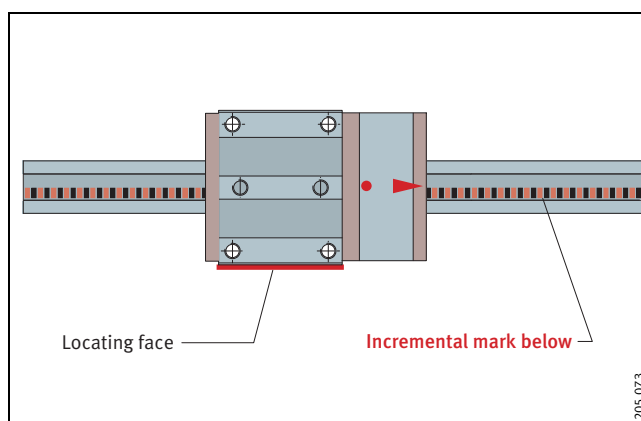

Figure 8 • Measuring head on right of carriage
- if the measuring head is on the right of the carriage, the incremental mark is below (Figure 8)